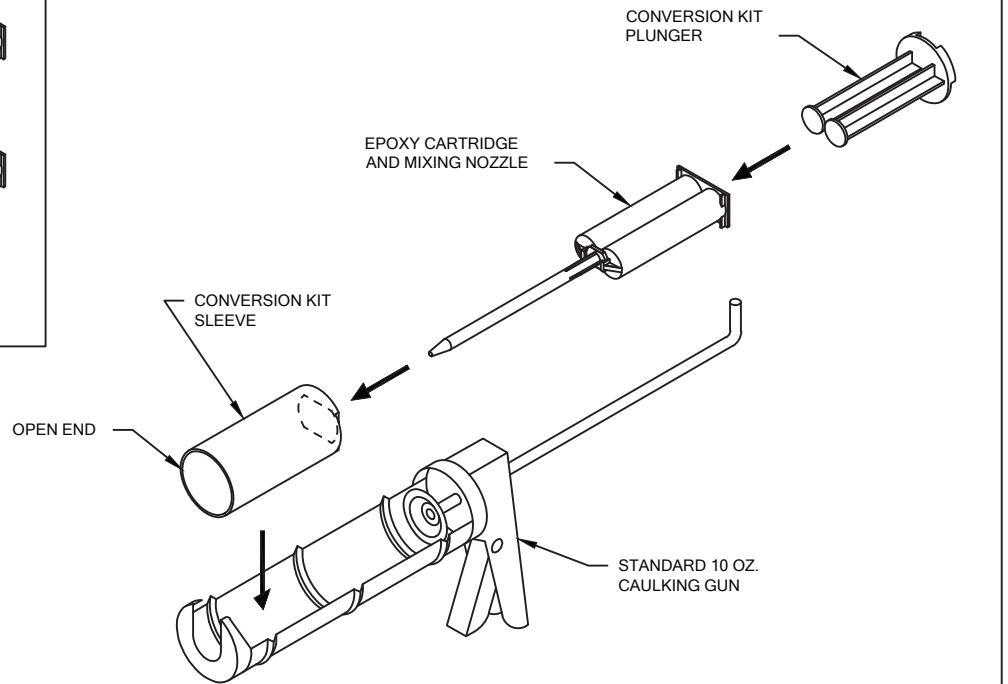

FIGURE 11.
CAULKING GUN CONVERSION KIT. REFER TO FIGURE 11.
3. PLACE THE CONVERSION KIT, WITH MIXER NOZZLE AND EPOXY CARTRIDGE, IN A STANDARD 10 OZ CAULKING GUN AS SHOWN IN FIGURE 11. PLUNGER WILL ATTACH TO CIRCULAR PUSH PLATE ON CAULKING GUN.